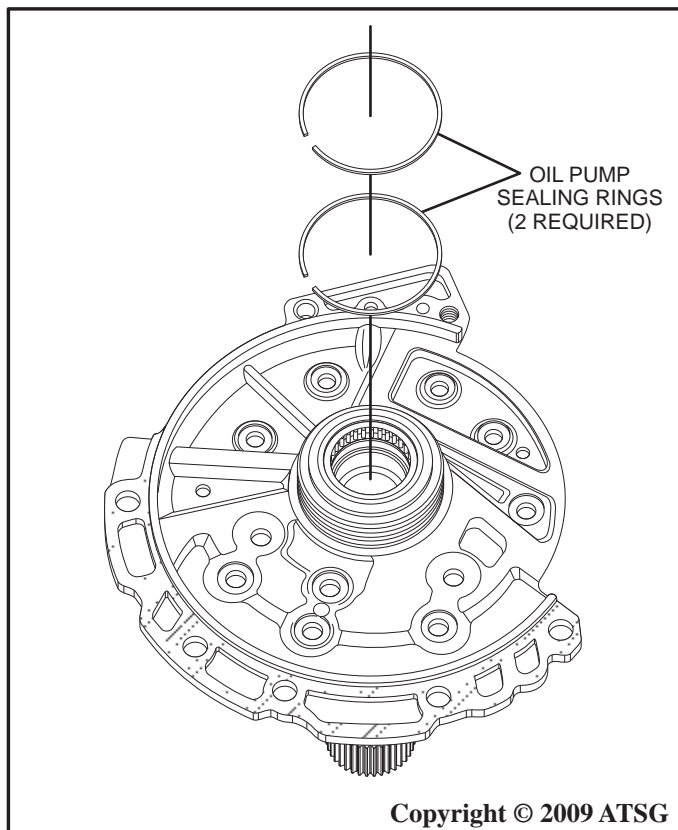

Figure 87
3. Remove the two pump body teflon sealing rings (if not previously done) as shown in Figure 87.